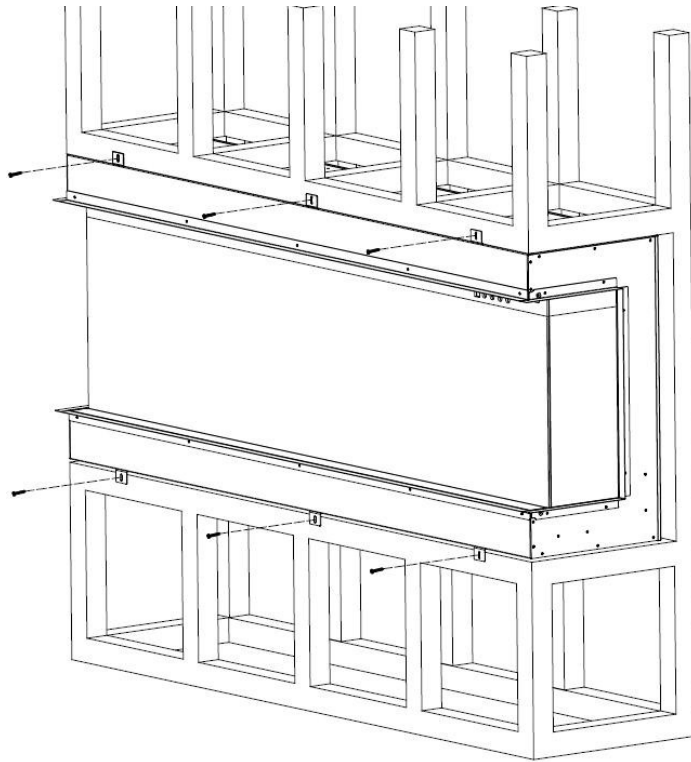

Fig.3-3
6. Insert the fireplace into the wall opening. Drive the mounting screws into the brackets and the wall studs. Plug in and check if the fireplace works properly. Fig.3-3